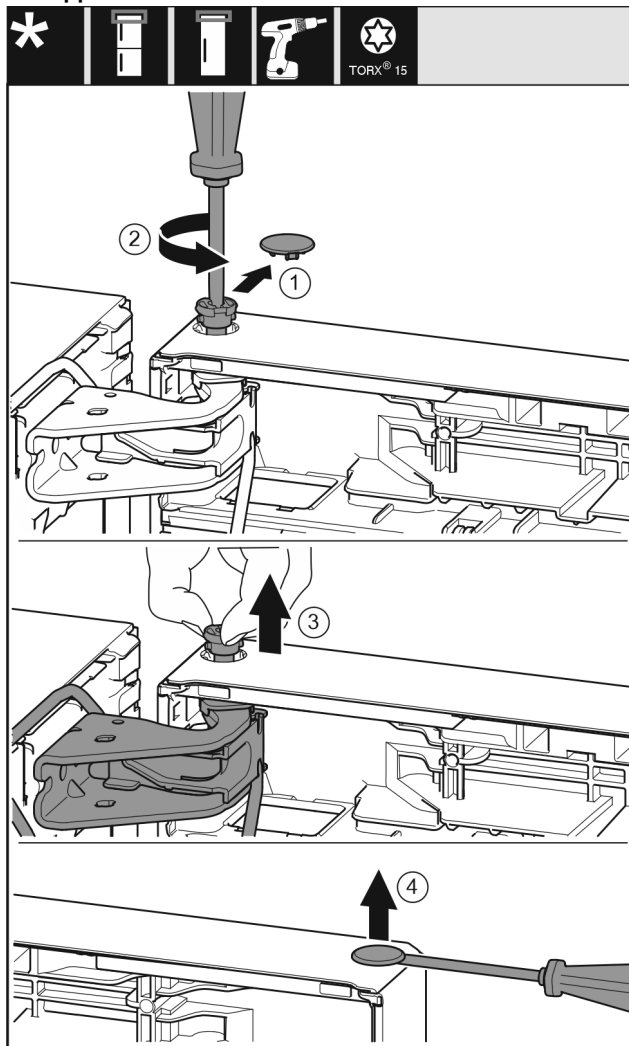

Fig. 22
- ▶ Carefully remove the protective cover. Fig. 22 (1)
- ▶ Loosen the bolts slightly with a T15 screwdriver. Fig. 22 (2)
- ▶ Hold the door and remove the bolts with your fingers. Fig. 22 (3)
- ▶ Carefully lift the plugs out of the door bearing bush with a slotted screwdriver and remove them. Fig. 22 (4)